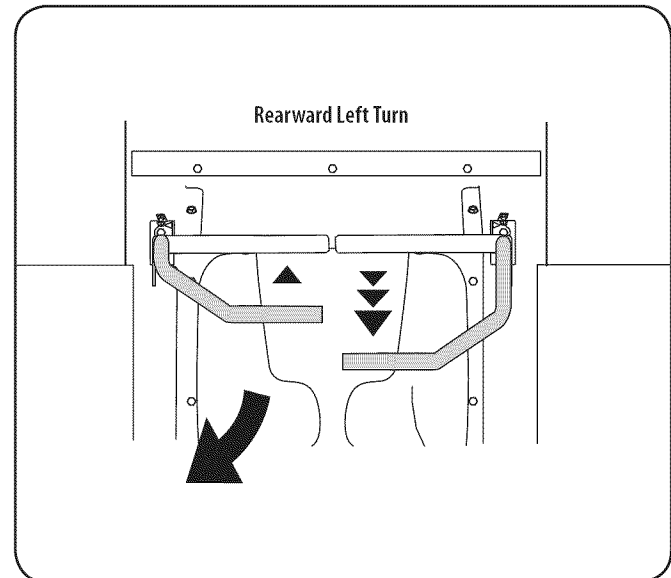

Figure 6
1. To turn to the left while traveling in reverse, move the left drive control lever forward of the right lever. See Figure 6.